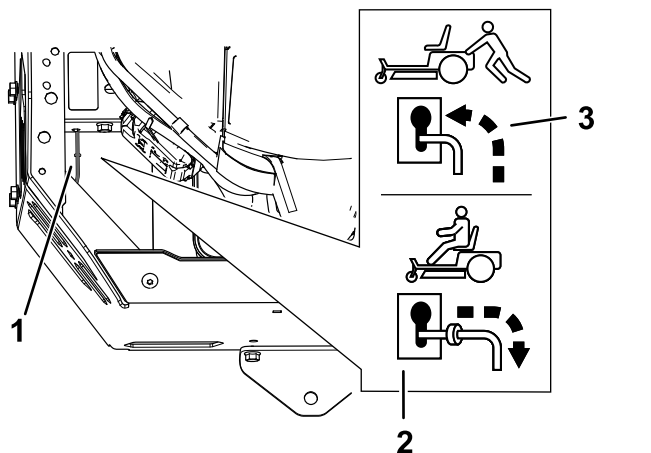

Figure 31
Move the bypass levers rearward through the keyhole and down to lock them in place as shown in Figure 31.
4. Move the bypass levers forward through the key hole and down to lock them in place (Figure 31).